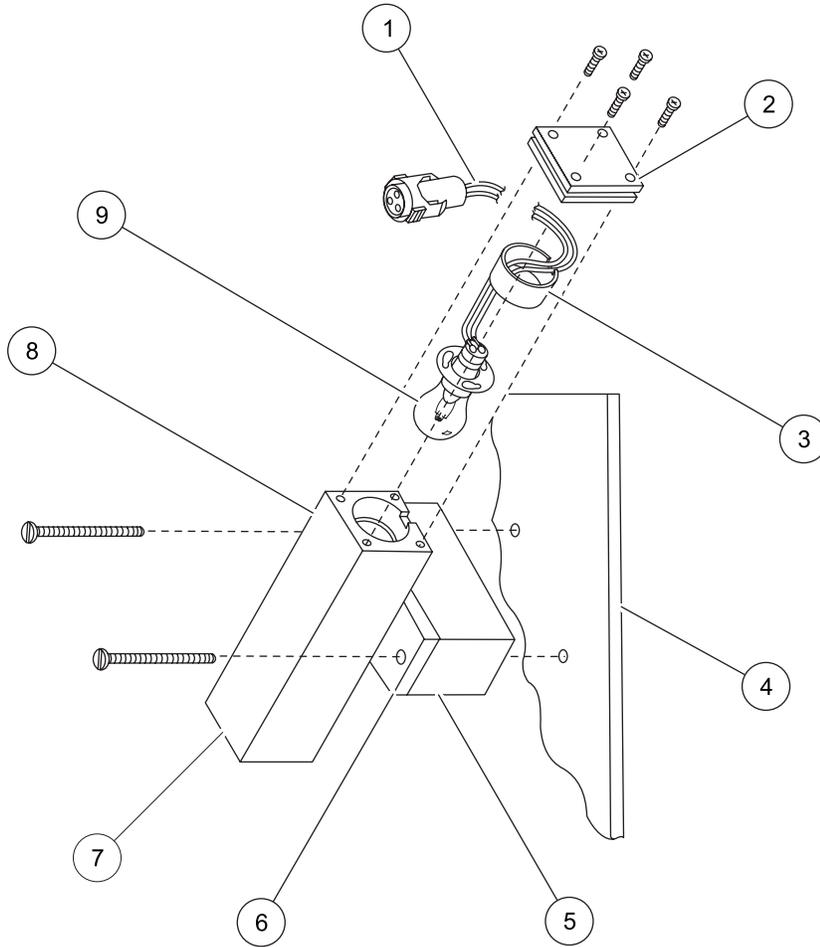

Figure 17 Lamp replacement
3. Remove the two screws that secure the lamp source assembly to the back plate. Remove the lamp source assembly (Figure 17).